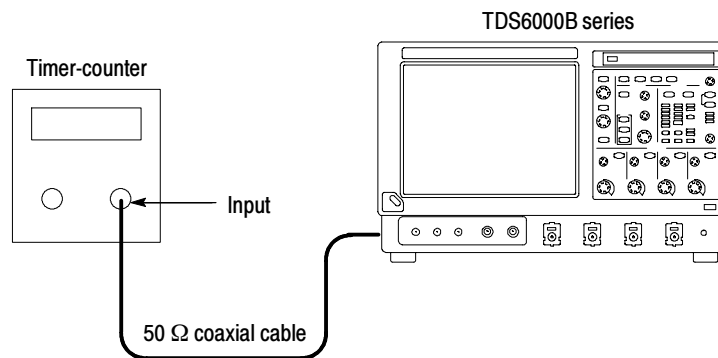

Figure 4-13: Initial test hookup
- a. *Hook up the test-signal source:* Connect, through a 50 Ω precision coaxial cable, the input of the timer-counter to **REF OUT** (see Figure 4-13).